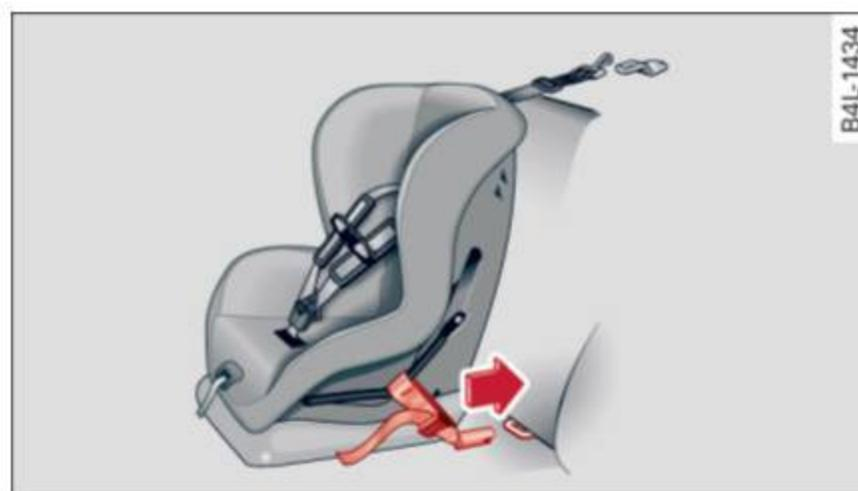

Fig. 150 Lower anchorages: proper mounting
- ▶ Attach both hook-on connectors with the spring catch release on the child safety seat onto the *LATCH* lower anchorage so that the connectors lock into place ⇒ *fig. 150*.